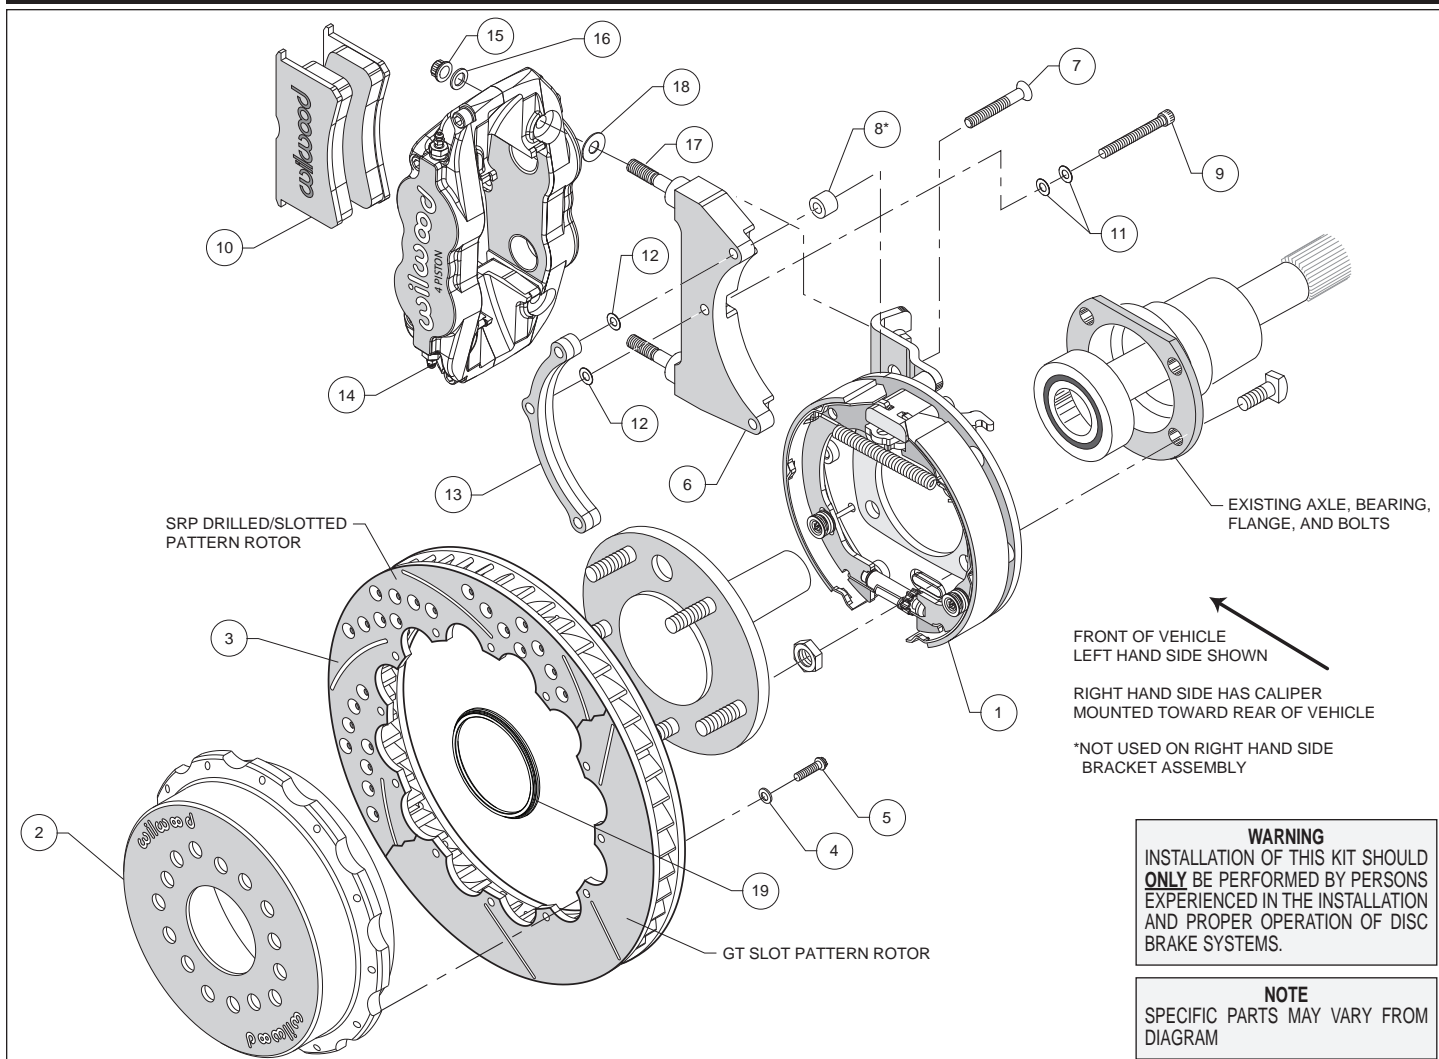
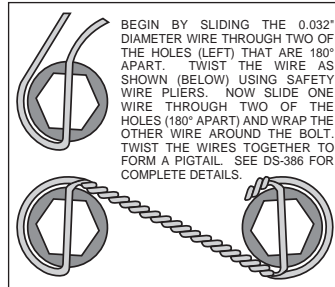

Figure 1. Typical Installation Configuration
Figure 4. Safety Wire Diagram
Assembly Instructions (numbers in parenthesis refer to the parts list and Figure 1 on the preceding pages): **CAUTION:** All mounting bolts must fully engage threaded holes.
- Orient the bracket assembly (1), as shown in Figure 1, and mount to the axle housing flange using the Original Equipment Manufacturer (OEM) bolts and nuts, Figure 1. Ensure that the bracket assembly backing plate fits flush against the axle housing flange. Apply red *Loctite*® 271 to the OEM bolt threads and torque to OEM specifications.
- **NOTE:** Please reference the caution statement at the beginning of the assembly instructions. The caliper mounting bracket assembly (6) should initially be installed with clean, dry threads on the mounting bolts. **NOTE:** The caliper bracket must tighten squarely against the back side of the bracket kit assembly (1). The ends of the bolts should not exceed inside face of insert. Later, after the caliper alignment has been checked, the mount bolts will be secured using red *Loctite*® 271.
Left Hand Side - Orient the left hand bracket (6) and 3-hole spacer (13) as shown in Figure 1 and Photo 1, and install using bolts (9) and two washers (11) in the middle and lower hole locations, Figure 1. Use bolt (7) in the upper hole with spacer (8) placed between the bracket (6) and the cable stop bracket, Photo 1. Initially place one .015" shim washer (12) on each of the three bolts between the bracket and 3-hole spacer, Figure 1. Temporarily tighten the mounting bolts.
•Orient the rotor (3) and the hat (2) as shown in Figure 1 and Photo 3. Attach rotor to hat using bolts (5) and washers (4). Using an alternating sequence, apply red *Loctite*® 271 to the threads, and torque to 140 **in-lbs**. For an added measure of security, the bolts may be safety wired using standard 0.032 inch diameter stainless steel safety wire as shown in Figure 4. Please refer to Wilwood's data sheet DS-386 (available at www.wilwood.com/Pdf/DataSheets/ds386.pdf) for complete safety wire installation instructions.
•Slide the rotor registration adapter (19) onto the axle register on the axle flange with the smaller O.D. facing toward the rotor/hat (2/3), Photo 4. Align the correct hole pattern in the hat with the stud pattern on the axle flange and slide into place, Figure 1 and Photo 5. **NOTE:** The rotor/hat must fit flush against the axle flange or excessive rotor run out may result. Install three lug nuts (finger tight) to keep the rotor/hat assembly in place while continuing with the installation. **NOTE:** Some OEM and after market axles come with stud sizes larger than 0.50" diameter. Verify stud size and have a qualified machine shop drill the bolt circle of the hat/rotor to the correct stud size, if necessary.
•Lubricate the caliper mounting studs (17) with lightweight oil. Initially place one .035" thick shim (18) on each stud as shown in Figure 1 and Photo 6. Mount the caliper (14) onto the bracket (6) using lock nuts (15) and washers (16), Figure 1. Temporarily tighten the lock nuts and view the rotor through the top opening of the caliper. The rotor should be centered in the caliper, Photo 7. If not, adjust by adding or subtracting shims (12) between the bracket (6) and the 3-hole spacer (13). Always use the same amount of shims on each of the three mounting bolts. Once the caliper alignment is correct, remove the bracket mounting bolts (7 and 9) one at a time, apply red *Loctite*® 271 to the threads, and torque to 180 **in-lb**.